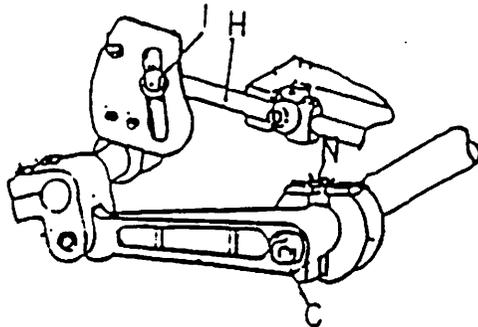

Fig. 5
(8) Adjustment of Feeding Mechanism (Fig 5)